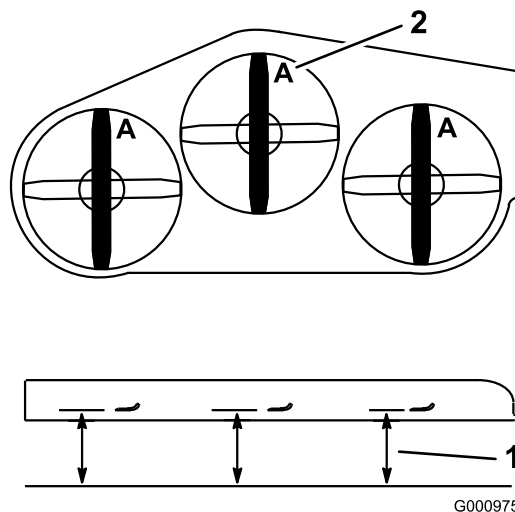

Figure 79
3. Rotate the blades until the ends face forward and backward. Measure from a level surface to the cutting edge, position A, of the blades (Figure 79). Note this dimension.